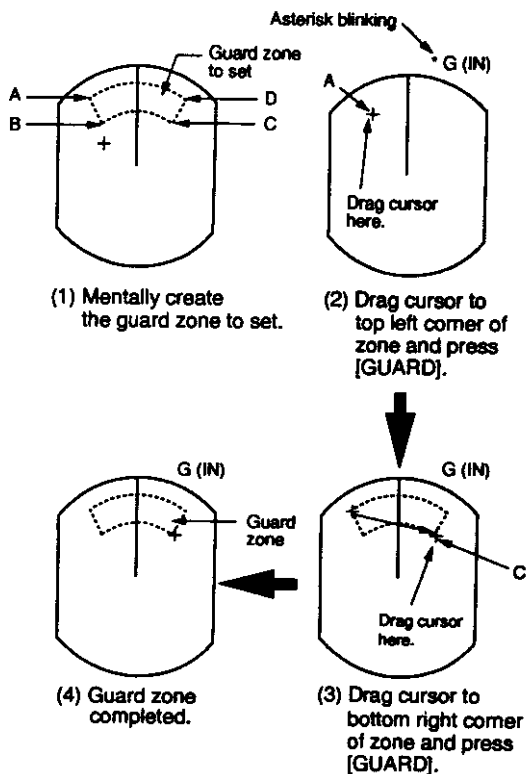

Figure 3-8 How to set the guard zone
- Operate the omnipad to set the cursor on point C (or D). See Figure 3-8 (3).
- Press the [GUARD] key. The asterisk disappears. See Figure 3-8 (4).